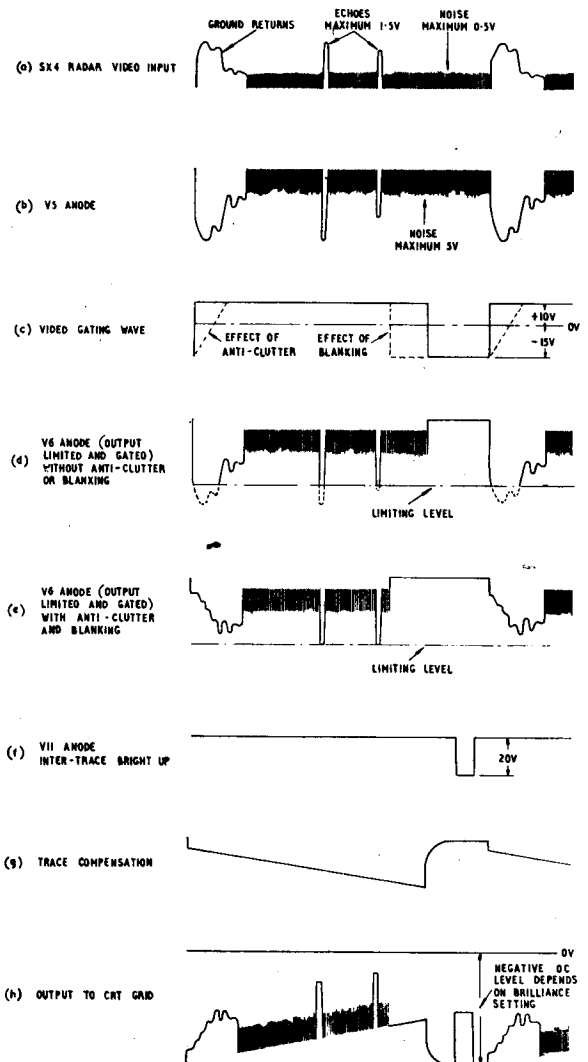

Fig. 7. Video amplifier Type 312—waveforms
14. The radar video signals arrive at SK4 from the panel (control) Type 859. They are positive-going, and are developed across the 1 K Ω resistor R4 (waveform a, fig. 7). They are AC-coupled by the 0.25 μ F capacitor C4 to the grid of V1 via the 100 K Ω see-saw input resistor R6. The gain on this channel approaches 1.3 M Ω divided by 100 K Ω , and is therefore just over 10.
15. The amplitude of the radar signals and noise arriving at SK4 depends upon the setting of a potentiometer in the control panel, but at the maximum, there are about 1½V of echoes, etc., and ½V of noise. Accordingly, the output at the anode of V3 includes a maximum of 5V of noise together with echoes and ground returns of greater amplitude, all negative-going (waveform b, fig. 7).
23. During the inter-trace period and the blanking period, if any, the video gating wave (waveform c, fig. 7) is at -15V , so that the diode V4B is conducting and keeps V6 cut off. Consequently all the trace-period inputs are shut off during the blanked and inter-trace periods.
25. The current switched on in V6 by the gating waveform amounts to 1 mA, so that a negative pedestal of about 2.7V amplitude carrying the negative-going radar and other video signals appears at V6 anode (waveform d, fig. 7, shows the signals at V6 anode without anti-clutter or blanking, and waveform c shows them with both). This combination is passed on to succeeding stages of the amplifier.
31. The 20V negative-going inter-trace bright-up pulse (waveform f, fig. 7) is similarly AC-coupled from V11 anode by the 0.1 μF capacitor C14 and applied to V8 grid via an 820 KΩ input resistor R62.
32. The trace compensation wave (waveform g, fig. 7) is produced by the waveform generator Type 80 and serves to give the spot steadily increasing brightness as it moves out from the origin of the display; this compensates for the
34. V8 acts as a normal pentode amplifier, its operating conditions being set by the potentiometer RV5, to the slider of which is returned the 4.7 MΩ grid resistor R71. Positive-going video signals, now including inter-trace bright-up and trace compensation, are developed across the 4.7 KΩ anode load R65. The signals are then DC-coupled by the divider chain R68, R67 to the grid of V9, which is connected as a triode cathode-follower and normally passes about 10 mA. R73 is the 1 KΩ cathode load for V9, and positive-going signals appearing across it are fed out by the 0.5 μF capacitor C32 to SK1/D and so to the CRT grid for brightness modulation (*waveform h, fig. 7*).